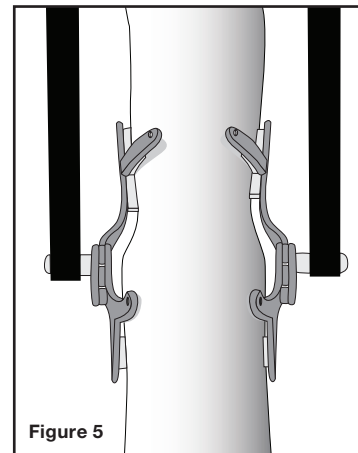

Figure 5
3. Remove hinges and attach 1/8 in. cork spacers (provided) to ensure proper spacing between hinge and positive model. See Figure 5.